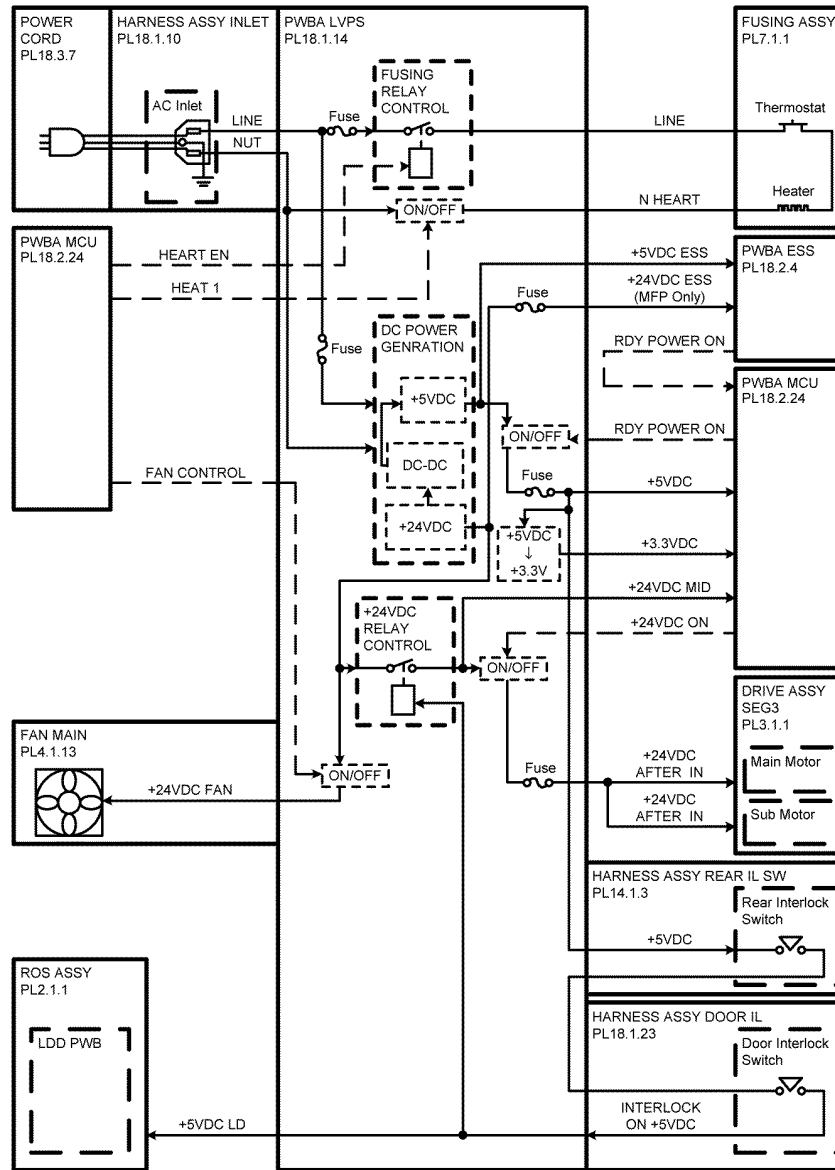

Figure 2 Safety system
- At the close of a service call ensure all covers are in place and all interlock switches are functioning correctly. If you bypass an interlock switch, use extreme caution when working on or around the printer. Figure 2 shows the safety interlock circuitry.